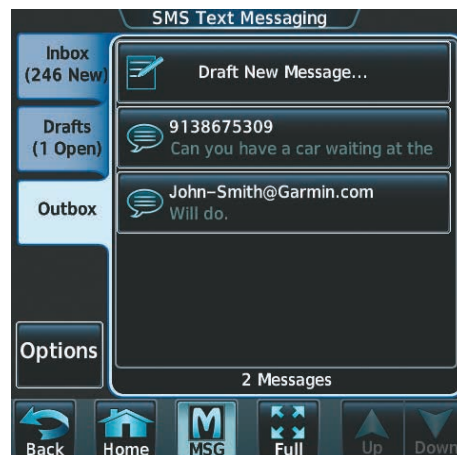

Figure 8-81 SMS Text Outbox
- 2) Touch the **Outbox** Tab. A list of sent or unsent messages is displayed as in Figure 8-81.